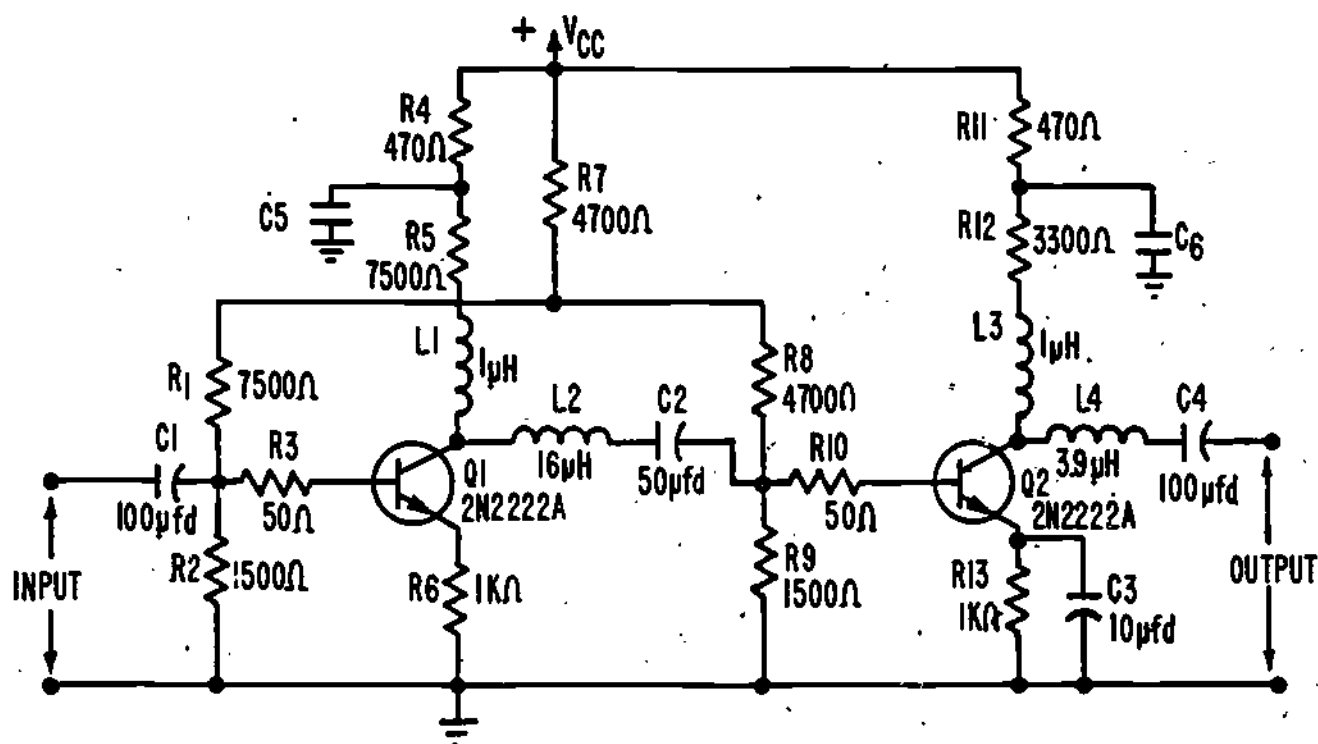

Figure 23
- (20.) Now let's examine the function of the remaining components in the two-stage video amplifier circuit shown in Figure 23.
In Figure 23, R4-C5 and R11-C6 act to prevent the amplifier from (decoupling/oscillating), and R10 acts to (narrow/broaden) the bandwidth of the series compensation network.